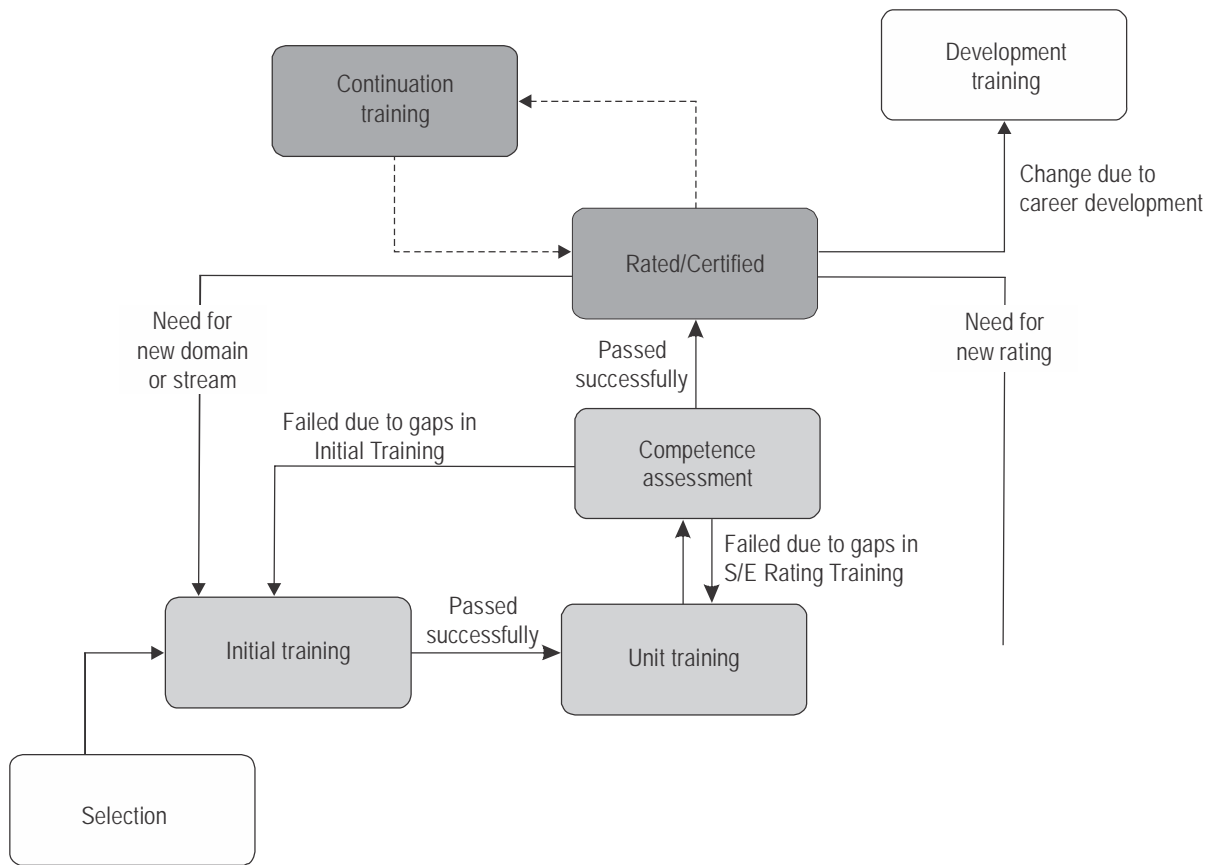

Figure 1-3. ATSEP training progression
1.4.2 The progression through ATSEP training is illustrated in Figure 1-3.